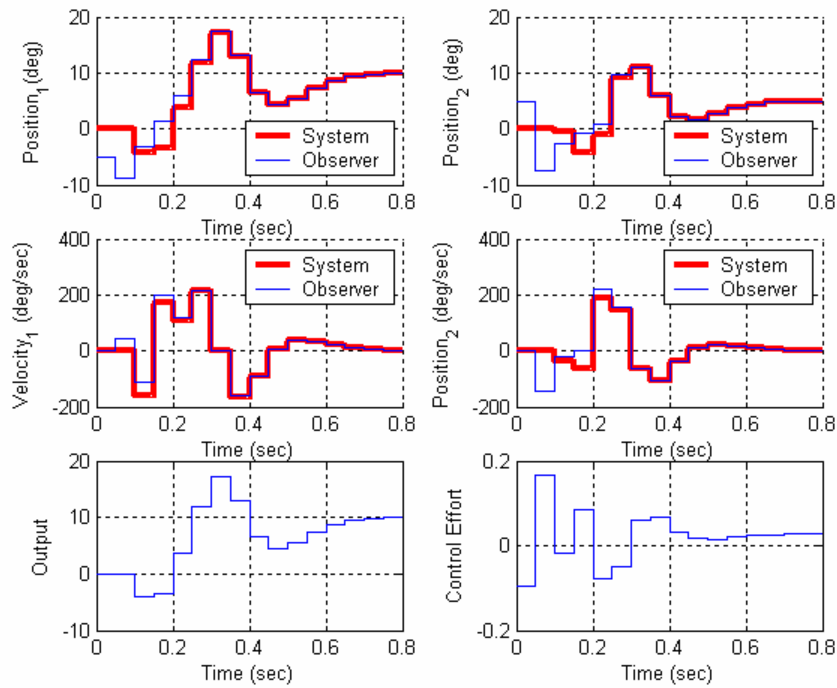

Figure 4: Results for problem 2e.
e) For the same conditions as part d, but assume the observer can only use the position of the second disk. You should get the results shown in Figure 4. Turn in your plot.